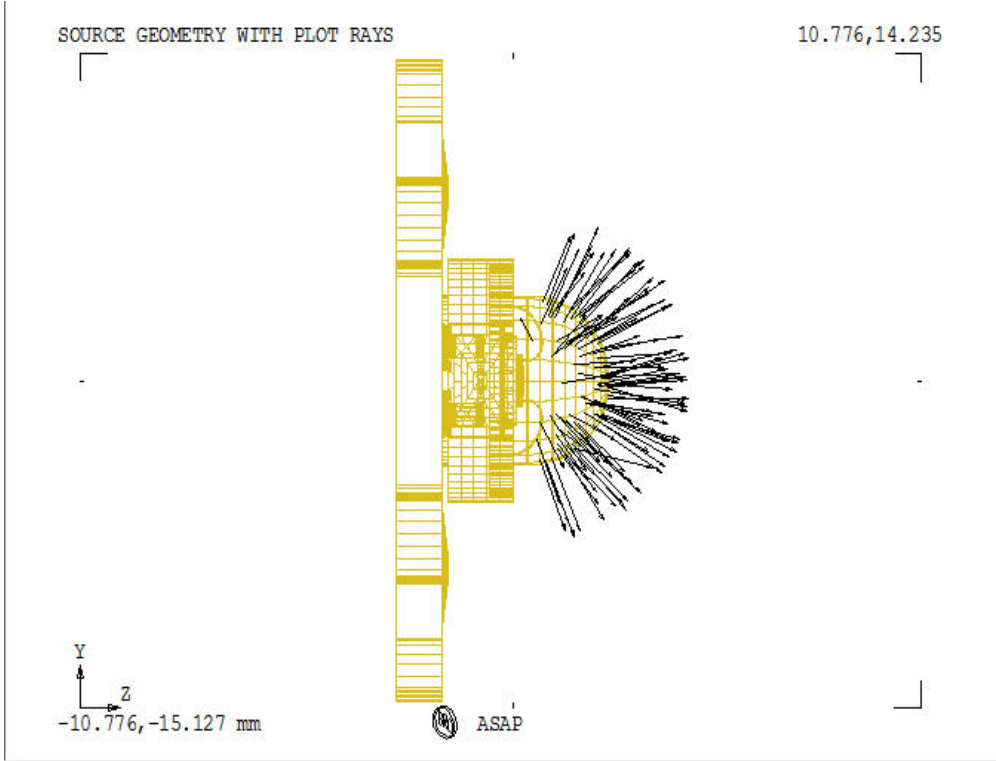
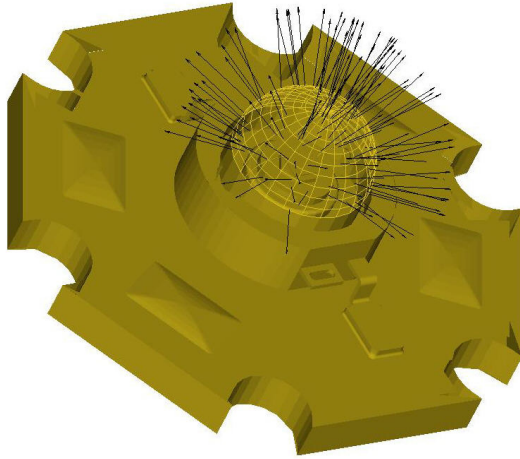

Figure 54 2D picture of the LED in ASAP
Figure 55 3D pictures of the LED in ASAP
ASAP creates the source geometry and rays, plots a 2D picture, and displays the results in the 3D Viewer. See Figure 54 and Figure 55.
- 24 Click the dome in the first 3D view of Figure 55, and click View Mode, . Change the view to “wireframe” and zoom in to enlarge.